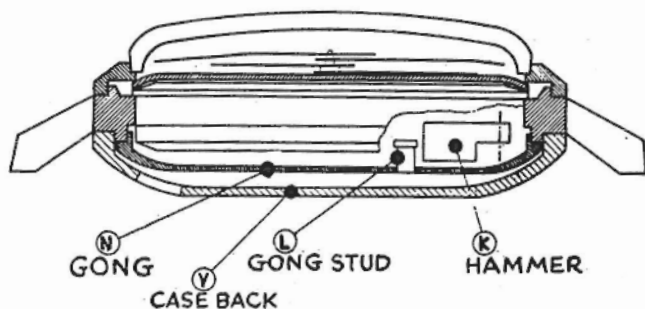

Fig. 7. Sectional view of "Cricket" case.
One of the unusual features of the "Cricket" is the bell system. It was found extremely difficult to contrive an alarm bell which could be heard. This obstacle was overcome in a highly original way (see Fig. 7). The gong (N) is fitted into the back of the watch somewhat in the